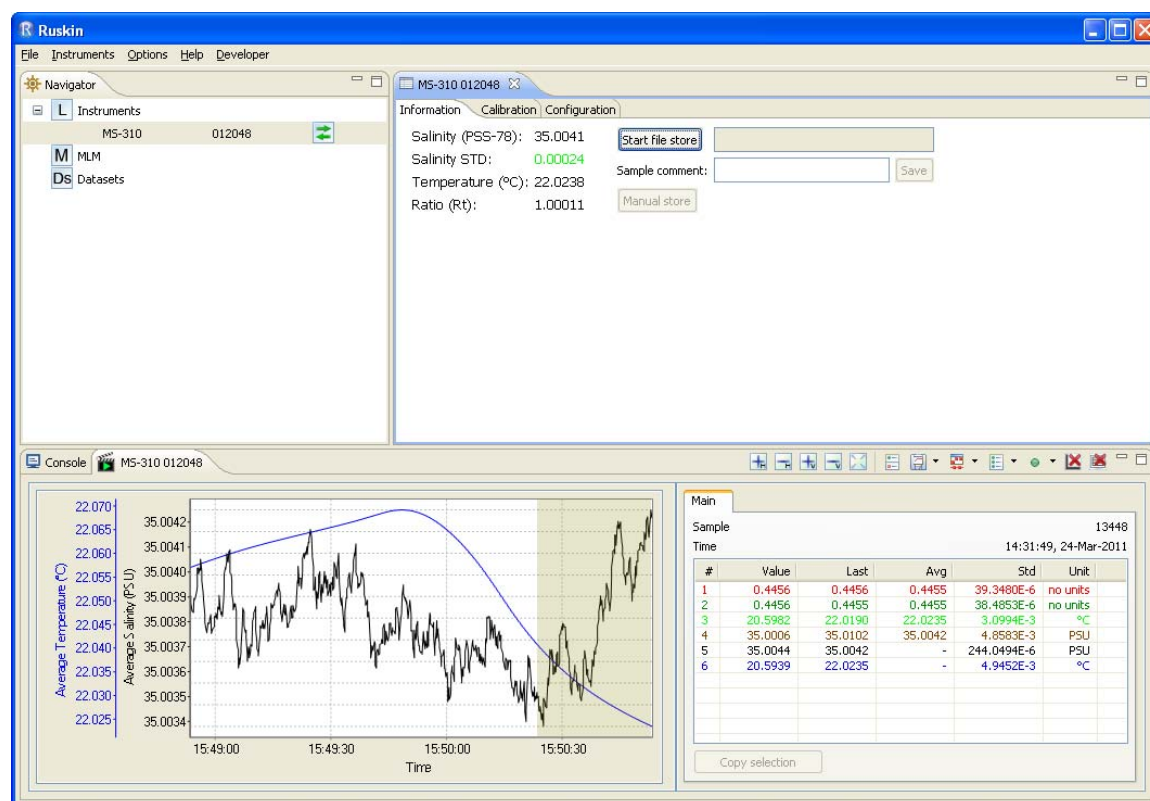

Figure 3 : Ruskin with MS-310e connected
4. On a Windows PC which is connected to the same network as the MS-310e, launch IPSetup.exe. (launchIPSetup.exe is included on the Ruskin installer CD.) The window shown in Figure 3 should display.